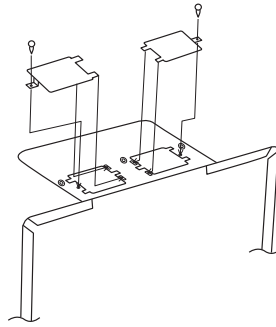

Fig. 1-2-5
- (6) Slide two tabs of ventilation exhaust covers (7) into two small square openings of blower plate so that two large openings are covered. Secure each with one screw (8). (Fig. 1-2-5)
- (8) Slide two tabs of ventilation exhaust covers ⑦ into two small square openings of blower plate so that two large openings are covered. Secure each with one screw ⑧. (Fig. 1-2-5)